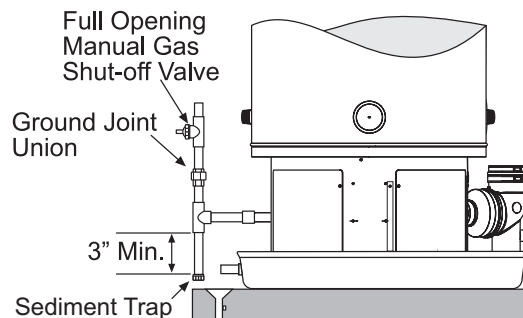

Figure 36
Follow the instructions below and reference Figure 36 for gas piping installation.
4. Install a ground union between the water heater and the manual shut-off valve. This is to allow easy servicing. See Figure 36 below.
1. For test pressures exceeding 1/2 psi (3.45 kPa) disconnect the water heater and its Main Gas Shutoff Valve from the gas supply piping system during testing, see Figure 36 on page 30. The gas supply line must be capped when disconnected from the water heater.